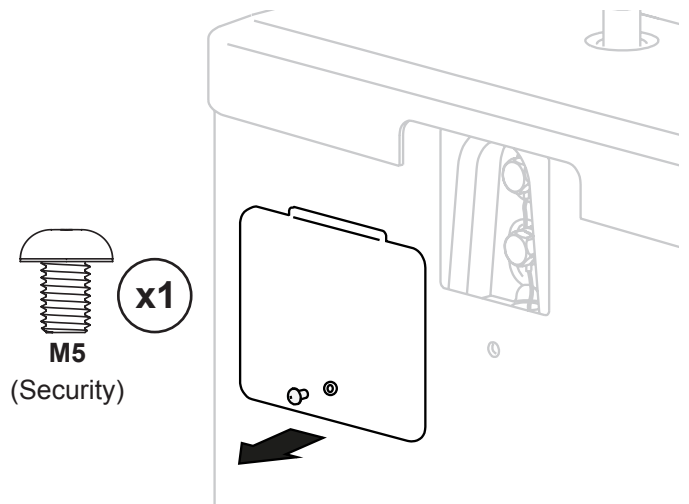

Figure 19: Sensor cover removal
- ▶ Ensuring the unit is drained, use an appropriate tool, remove the sensor cover, see figure 19 above. Underneath the cover are two sensor assemblies, they are the water level sensor, lower bolt and the tank overflow sensor, upper bolt.